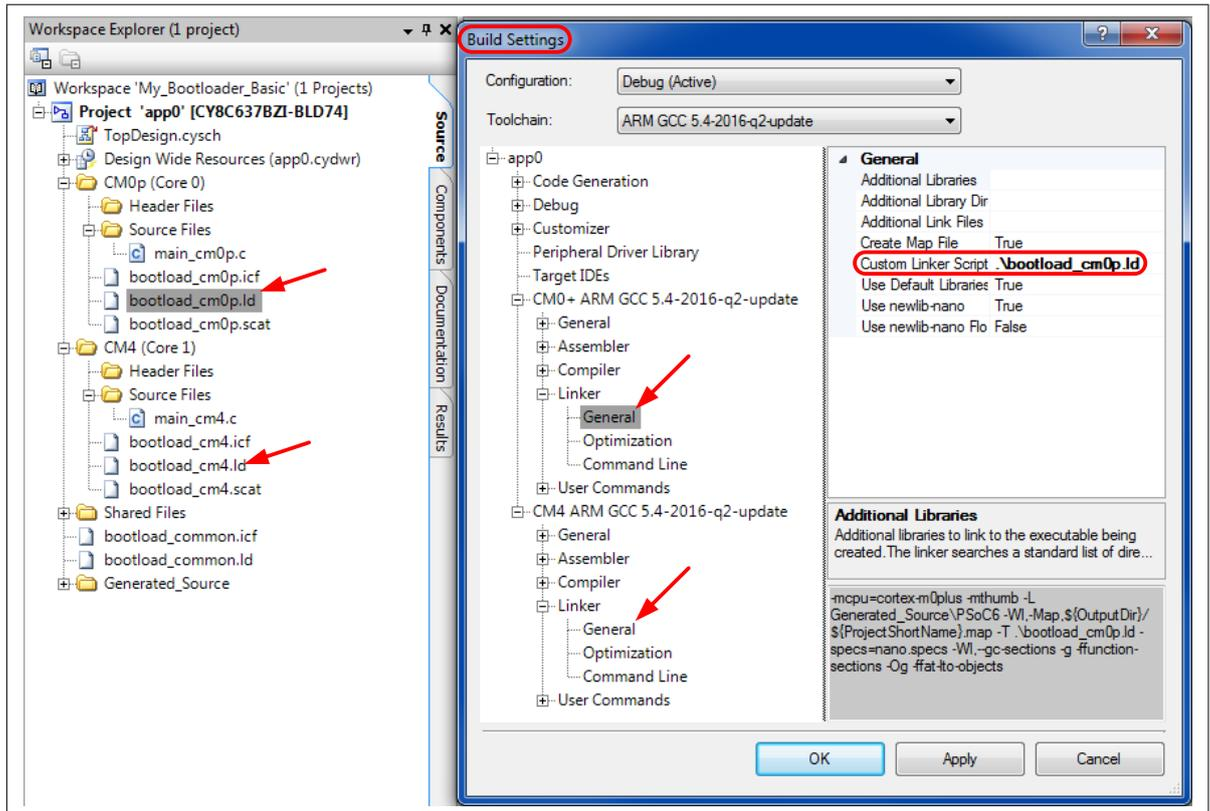

Figure 12 PSoC Creator project build settings for custom linker scripts
- Change the Project Build settings to use the bootloader linker script files instead of the default linker script files. Select the `bootload_cm0p.ld` file for the CM0+ CPU, as Figure 12 shows. Include the relative path to the file. Select the `bootload_cm4.ld` file for the CM4 CPU (not shown in the figure)